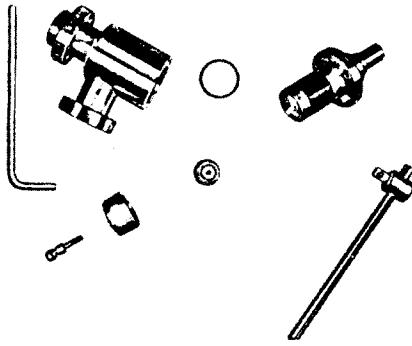

Figure 1-3 Gasket Replacement
- c. With a wrench, turn the nut further to exert a pulling force on the screw and thus on the valve gasket. This pulls the special alloy gasket out of the piston (Figure 1-3).